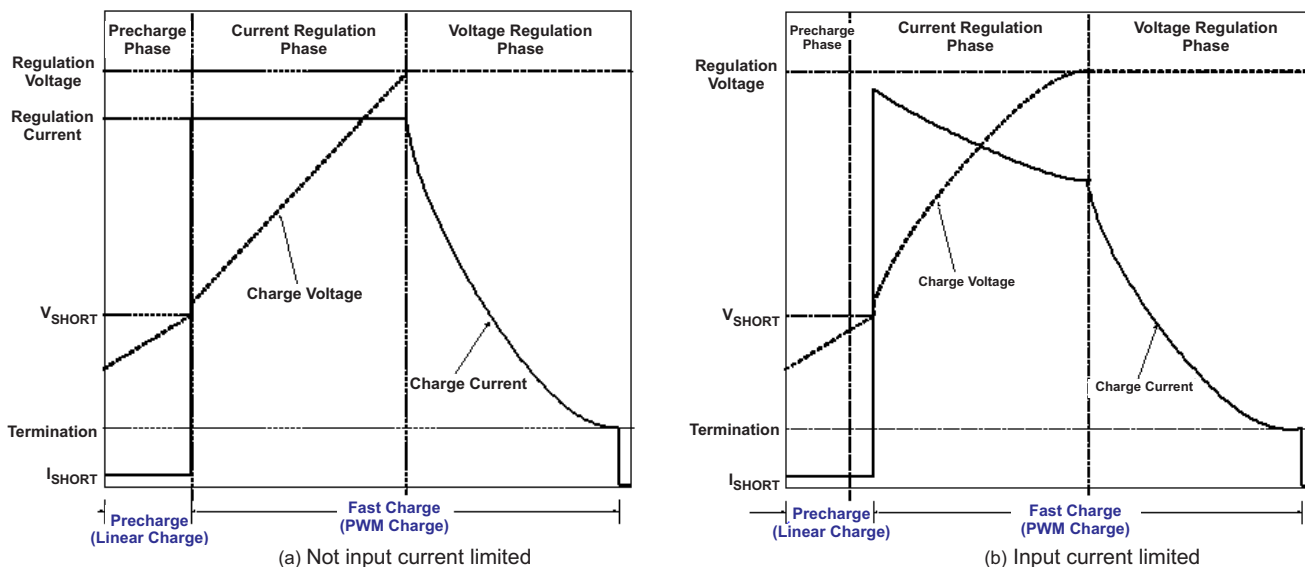

Figure 2. Typical Charging Profile of bq24273
There are 5 loops that influence the charge current; constant current loop (CC), constant voltage loop (CV), thermal regulation loop, input current sense loop and input voltage dynamic power management loop (VIN-DPM). During the charging process, all five loops are enabled and the one that is dominant takes control. The bq24273 supports a precision LiFePO4, Li-Ion or Li-Polymer charging systems for single-cell applications. Figure 2 shows a typical charge profile.
When the battery is deeply discharged or shorted ( $V_{BAT} < V_{BATSHRT}$ ), the bq24273 applies a 50mA current to close the pack protector switch and bring the battery voltage up to acceptable charging levels. Once the battery rises above  $V_{BATSHRT}$ , the charge current is regulated to the value set in the I2C register. If the die temperature does heat up, the thermal regulation circuit reduces the charge current to maintain a die temperature less than 125°C. The slew rate for fast charge current is controlled to minimize the current and voltage over-shoot during transient. The charge current is regulated to  $I_{OCHARGE}$  until the battery is charged to the regulation voltage. Once the battery voltage is close to the regulation voltage,  $V_{BATREG}$ , the charge current is tapered down as shown in Figure 2. The voltage regulation feedback occurs by monitoring the battery-pack voltage between the BAT and PGND pins. The bq24273 is a fixed single-cell voltage version, with adjustable regulation voltage (3.5V to 4.44V) programmed using the I2C interface.